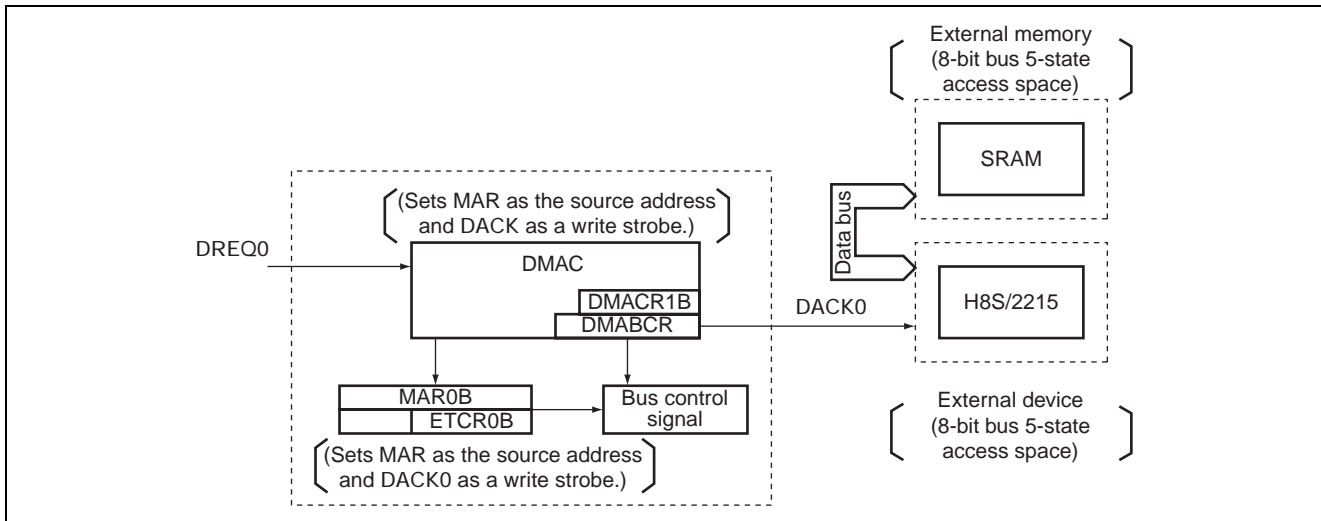

Figure 2 Block Diagram of DMA Controller
A. The block diagram of DMAC to be used in this sample task is shown in figure 2.